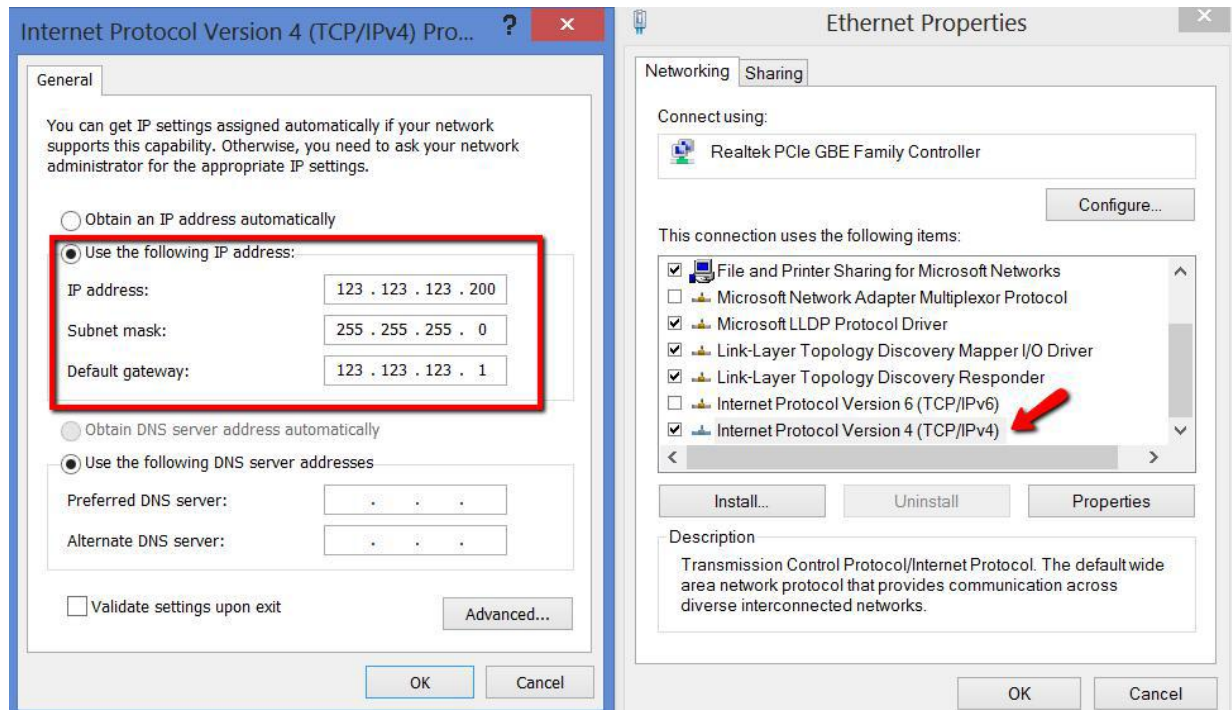

Figure 15 EBLE (PROJECTOR IP PORT) SETTING
15. Scroll Down and double click “TCP//IPv4” and Set the IP as below Figure 15.